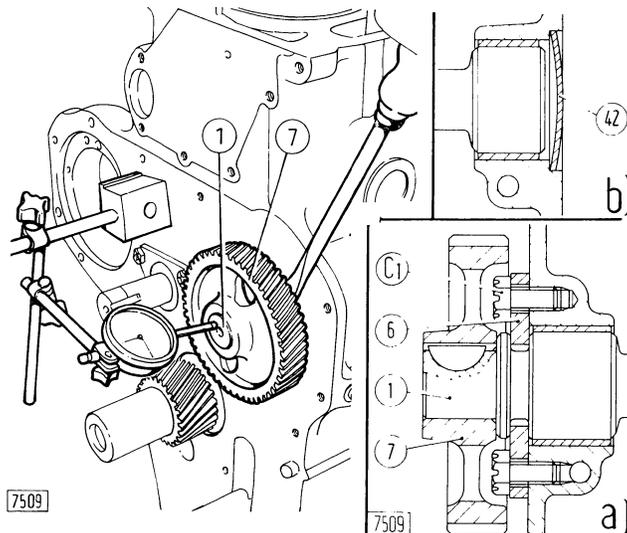

Fig. 21 - Checking Camshaft End Float Using a Dial Gauge
The crankcase mounted camshaft runs on seven white-metal-lined steel bearings and is retained in position by thrust plate (6, Fig. 21).
- Take off thrust plate (6, Fig. 21) and slide out the camshaft.